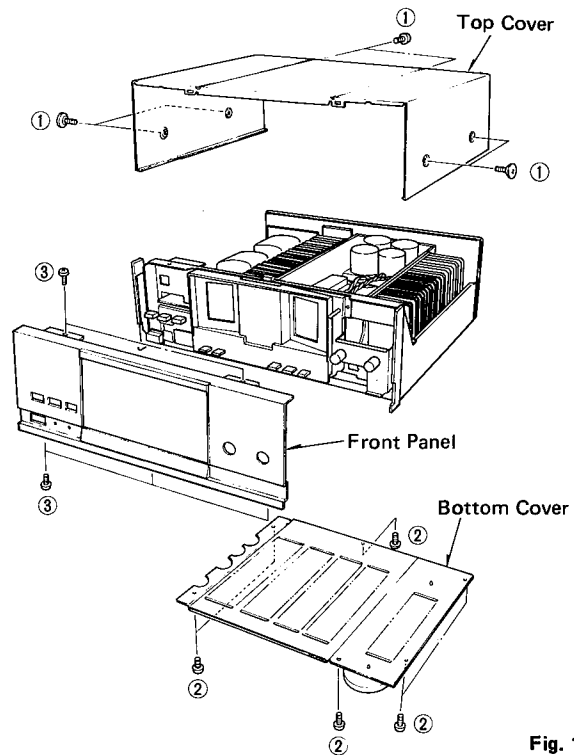

Fig. 1.
Remove 6 screws (①) in Fig. 1. and slide the Top Cover back.
Remove 6 screws (②) in Fig. 1.
Remove 5 screws (③) in Fig. 1.